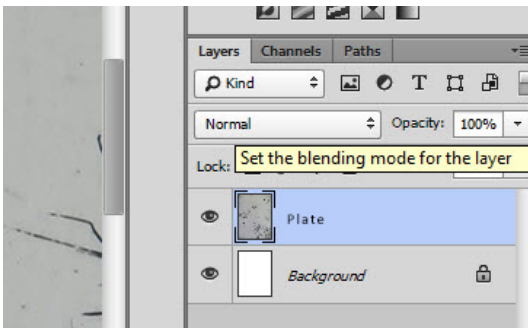

Figure 9
- First, if you haven't already, move the layer with the image of the plate to a new layer, so that Photoshop (1) has a white background layer, and (2) a layer with the image of the plate. (Figure 9)